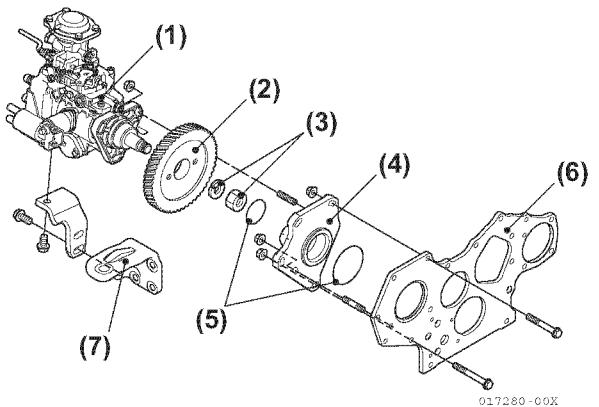

Figure 5-162
- Fit the pump drive gear to the pump camshaft (Figure 5-162).